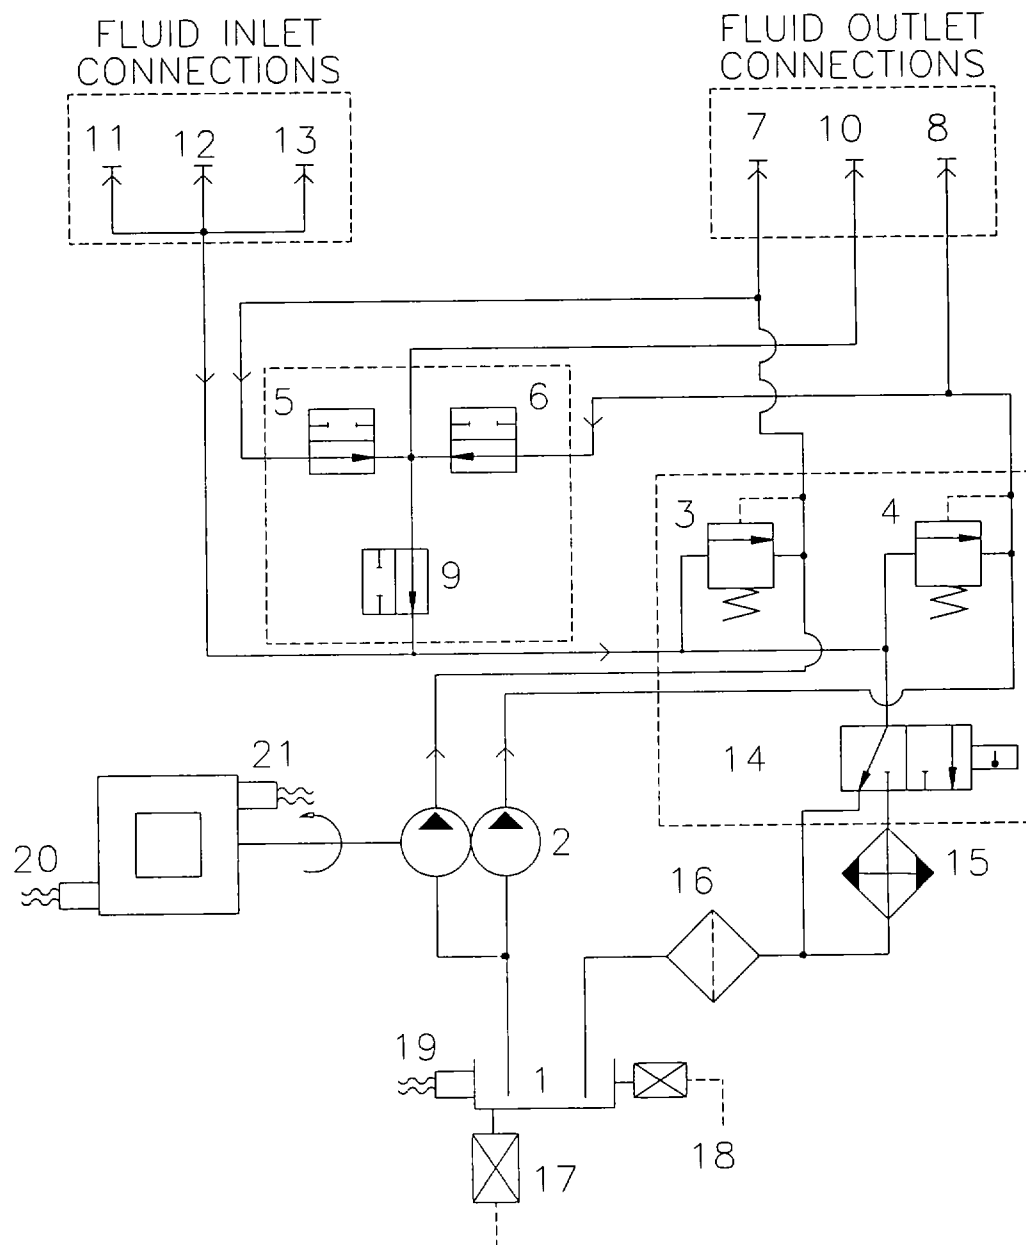

Figure 1-4. Hydraulic Schematic. (Start up Position).
1.14. CIRCUIT DESCRIPTION (Figure 1-4).